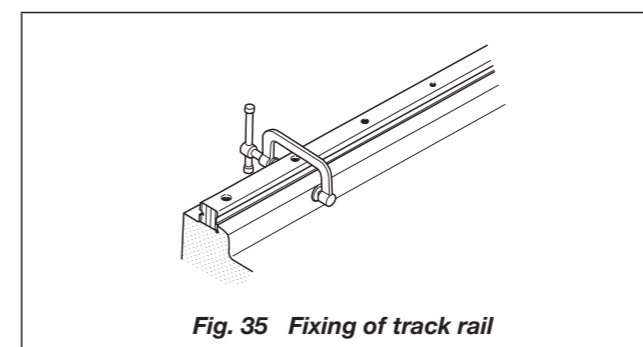

Fig. 35 Fixing of track rail
- Correctly fit the reference mounting surfaces of Track Rails I and II to the reference mounting surfaces of the bed and bring them in close contact using a small vise, etc. Tighten the mounting bolt at the position of the vise. (See Fig. 35.)